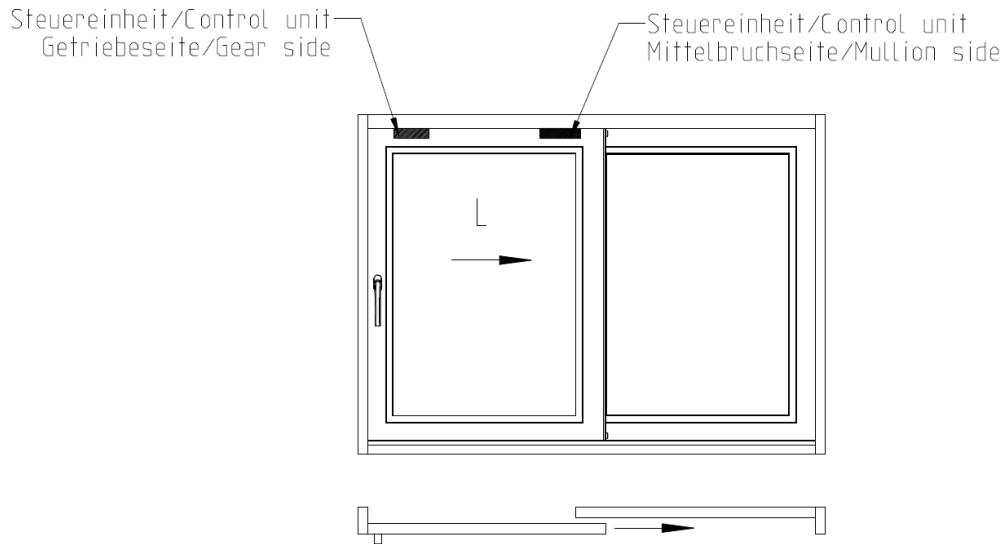

Fig. 1
2. **Espagnolette side:** Place the PIN centering unit on the control unit (Fig. 1)
5. **Mullion side:** Place the PIN centering unit on the control unit (Fig. 1)